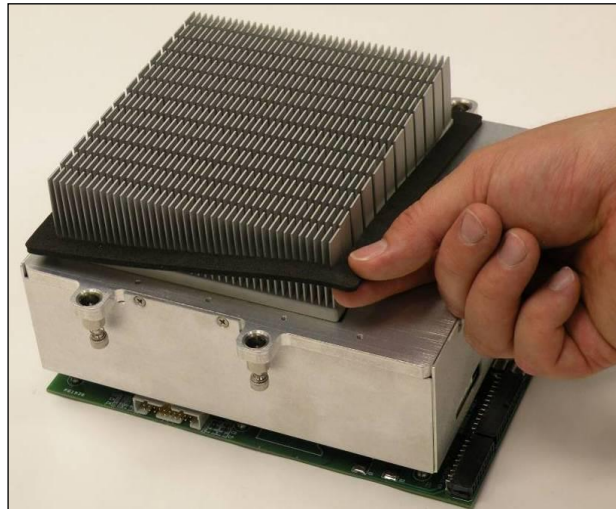

Figure 126. Replace gasket on heat sink
1. Replace the sealing gasket over the heat sink (Figure 126).